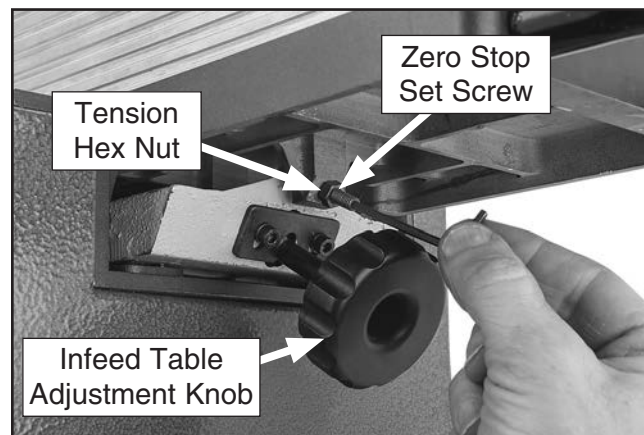

Figure 23. Zero stop components.
The zero stop (see **Figure 23**) allows the operator to consistently bring the infeed table even with the outfeed table height.
2. Loosen tension hex nut, and adjust zero stop set screw until it contacts table base (see **Figure 23**).